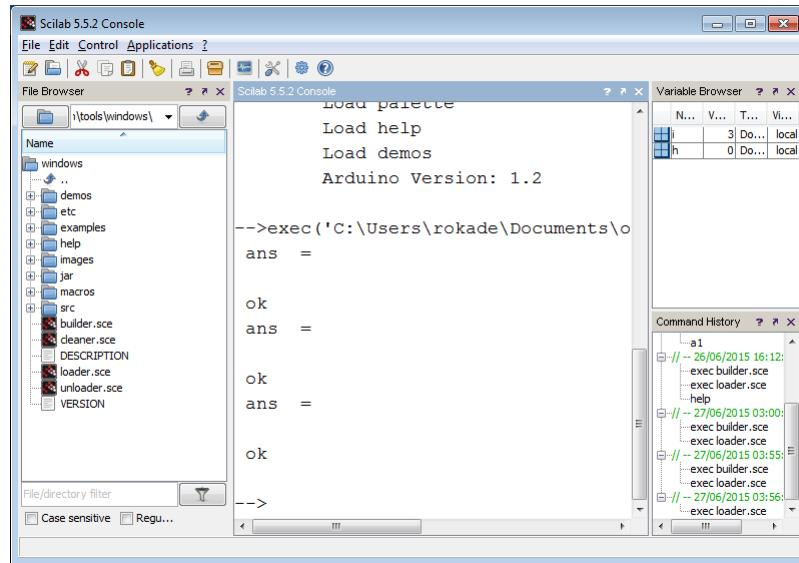

Figure 3.14: Scilab test code output
7. To execute this code, on the menu bar, click on the **Execute**, option. Then choose **File with no echo**. The output will appear on the console as shown in Fig. 3.14. As shown in the figure, we see the response of this code as “ans = ” and “ok” three times. The code basically gives some input to Arduino three times and the program inside it returns “ok” three times. This code thus confirms the working of the Scilab-Arduino toolbox. The code also confirms that the firmware inside the Arduino is correct. It is alright if one or two of